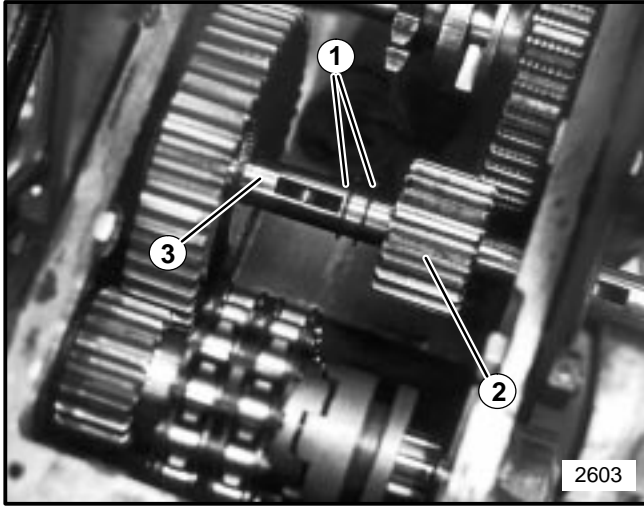

FIGURE 18
6. Move shaft out right side of case until large gear clears shaft for removal. See Figure 18.